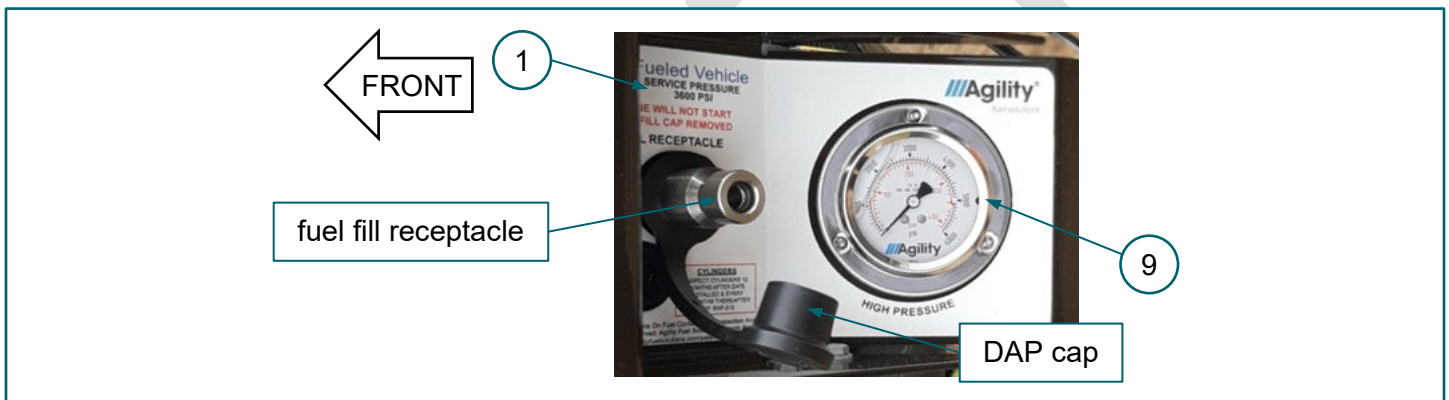

FIGURE 4-2. (1) fuel fill panel, (9) HP gauge, fuel fill receptacle, Drive Away Protection (DAP) cap, *NOTE: cap removed*
2. Fuel vehicle to 500 psi (3.45 MPa). Refer to *ENP-516, Truck and Tractor CNG Fuel System Operation, Maintenance & Inspection Manual*, "CNG System Fueling" section. **FIGURE 4-2**